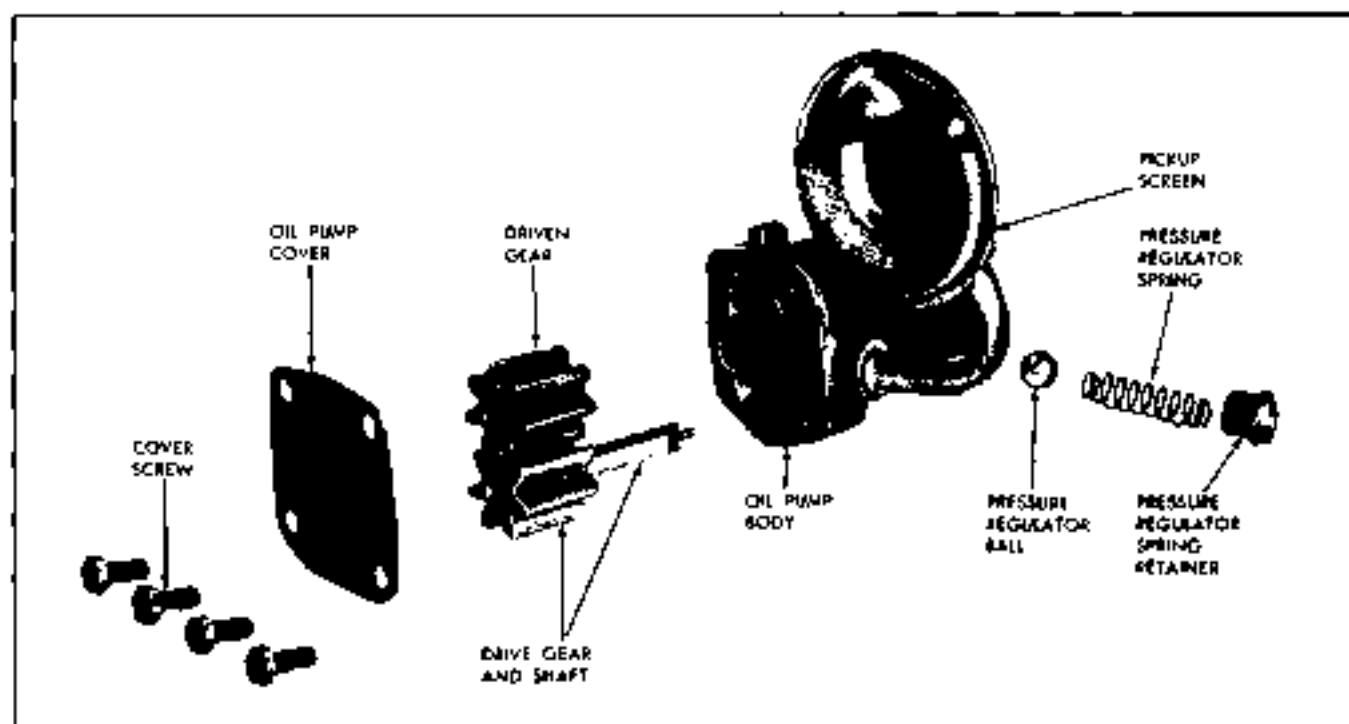

Fig. 6-105 Oil Pump - Exploded View
2. Inspect pressure regulator spring (Fig. 6-105) for distortion, cracks, and wear on sides.
5. Inspect pump gears and end of drive gear shaft for wear (Fig. 6-105).